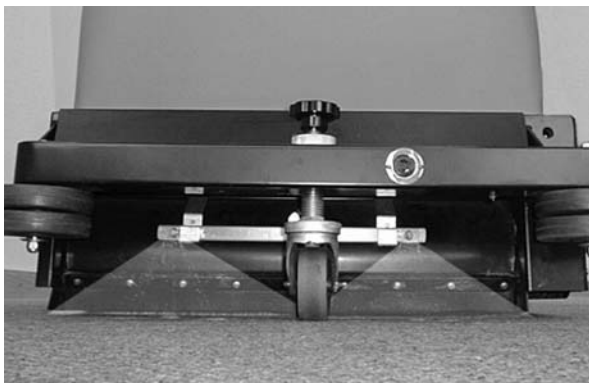

FIG. 34
- c. Operate Machine System Flush Mode and observe spray pattern. Pattern should fan out evenly across the width of the spray bar (Figure 34).